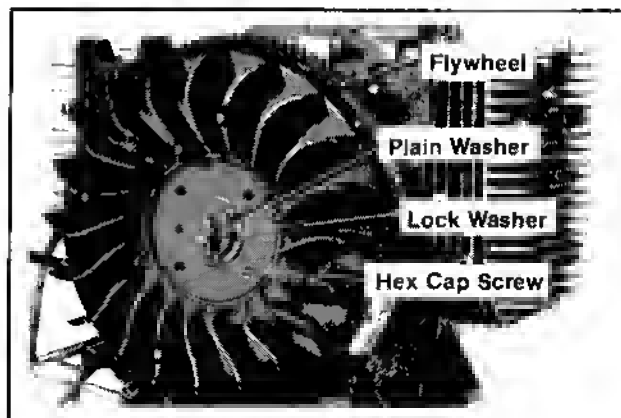

Figure 11-37. Installing Flywheel Fastener.
2. Place the flywheel on crankshaft and install plain washer, split lock washer, and hex. cap screw (lubricate threads with oil). Refer to Figure 11-37.